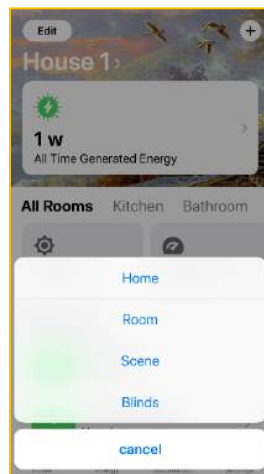

Figure 32
10.8.2. Select **Home** from the menu options (Fig. 32).